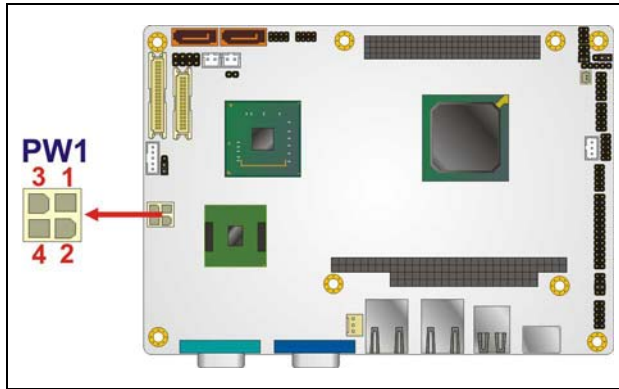

Figure 3-4: AT Power Connector Location
- CN Location:** See **Figure 3-4**